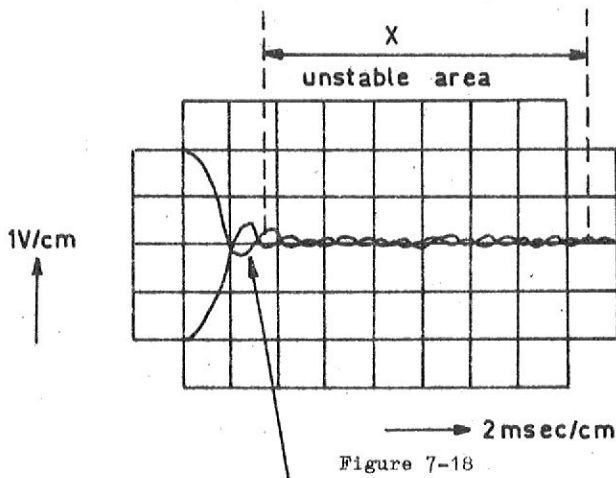

Figure 7-18
In figures 7-18 and 7-19 positioning is over one step. The slope is too steep (SE2) so the area x becomes unstable.
8. Position the heads to track 073 (146) by means of the test case.
10. Adjust head 0 as shown in fig. 7-18.